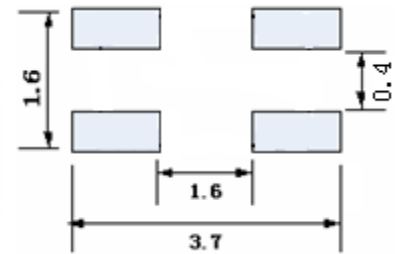

Fig.4-5
- d) Recommended PCB pattern for reflow soldering: See Fig. 4-5.